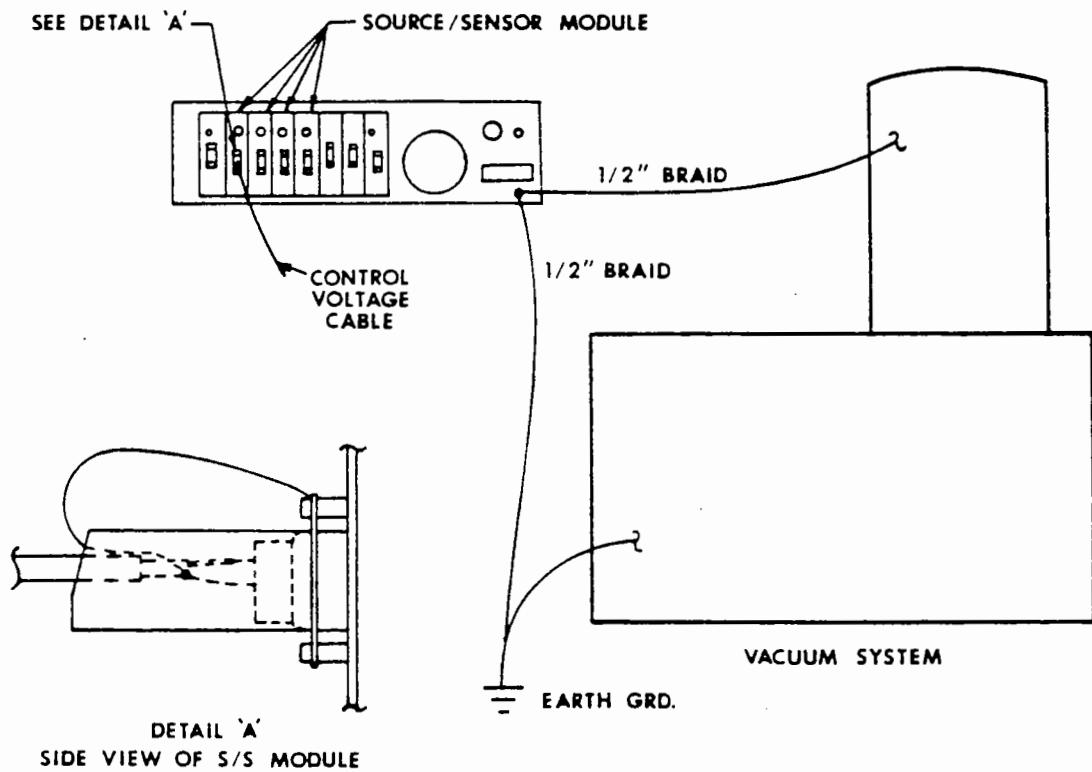

Fig. 3-1 Grounding Diagram
- Connect a ground braid between the lug on the rear panel of the instrument and the vacuum system's main ground points, as well as a ground between the cable shield and the source/sensor connector screw, as shown in Fig. 3-1.